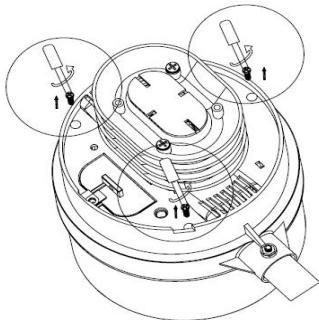

Figure 6
1. Using a Phillips head screwdriver, loosen the three screws. (figure 6)